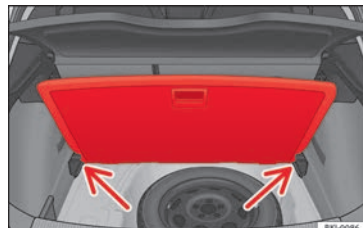

Fig. 164 Luggage compartment variable floor: sloped position.
- Lift the variable floor using handle ①, pull it up and push it towards the backrest of the rear seats until the floor folds along the hinge line and the movable part of the floor is resting on itself.
- Rest the floor on its housings » Fig. 164 (arrows).